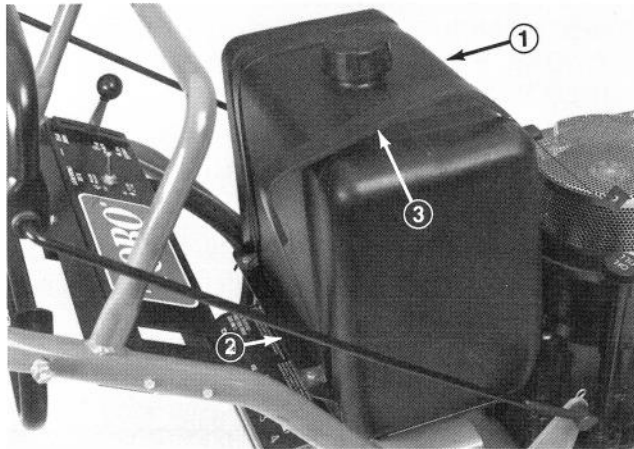

Figure 6
1. Position fuel tank onto mounting plate so fitting opening is to left side (Fig. 6).
2. Secure fuel tank straps to rear of fuel tank mounting plate with (2) 1/4-20 x 5/8" lg. capscrews and locknuts (Fig. 6).